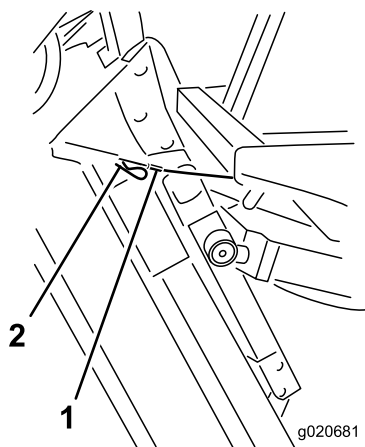

Figure 103
6. Hold the mower deck upright, fit the cable end over the pin on the mower deck lift arm, and secure it with the hairpin cotter (Figure 103).